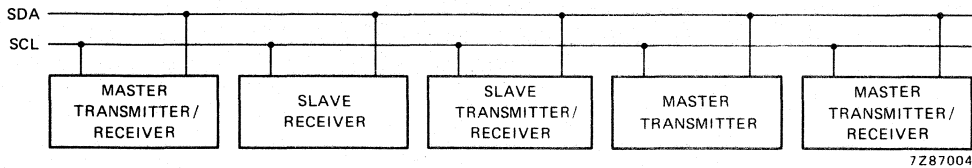

Fig. 5 System configuration.
**System configuration (see Fig. 5)**